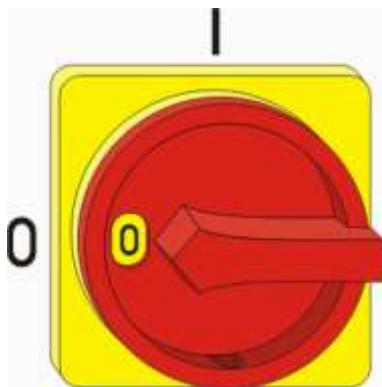

Fig. 51: main switch
1. Turn the main switch to the "0" or "Off" position (Fig. 51).